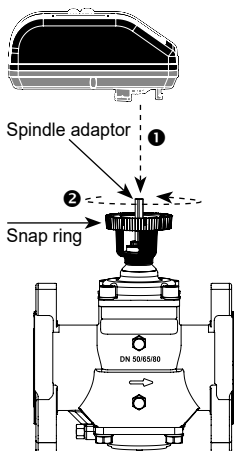

Figure 2
❶ Then place the actuator on the spindle adaptor and place the three actuator "legs" into the three holes in the mounting bracket (figure 2 and 3). Make sure that the snap ring is clicked onto the mounting bracket, so that the snap ring is locked at the top of the mounting bracket, but still able to rotate. ❷ Then finger-turn the snap ring counter clockwise (upside view) approximately 1/6 of a turn until its stop points touch the actuator "legs" and the mounting is locked with a (small) click. Do not use additional tools.